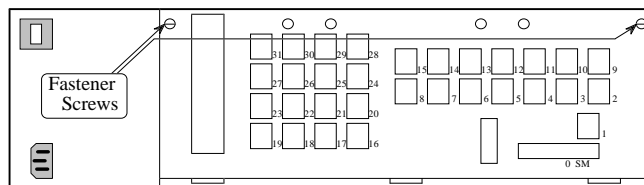

Figure 4 - Location of Fastener Screws on Computer
4. Loosen the two fastener screws holding the back panel to the chassis (see Figure 4).